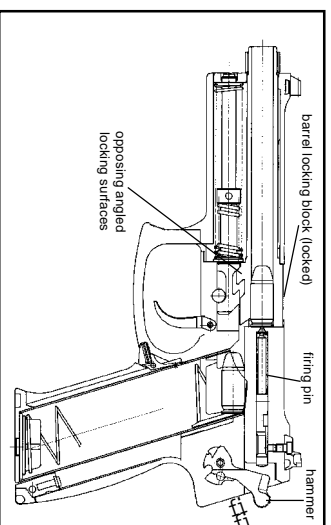

Figure 5 Firing
A. **Firing** - (See Figure 5) Pulling the trigger rearward pulls the trigger bar forward. The trigger bar pivots the sear actuator upwards which disengages the firing pin block. At the same moment, the sear is pivoted out of engagement from the lower of the two shelves located on the hammer. The compressed hammer spring drives the hammer forward into
H. **Locking** - (See Figure 5) -The slide presses the barrel forward. As it does, the opposing angled surfaces of the barrel locking block and recoil spring guide rod pivot the rear end of the barrel up into engagement with the ejection port in the slide. The slide is now fully forward and the new round is ready to be fired.